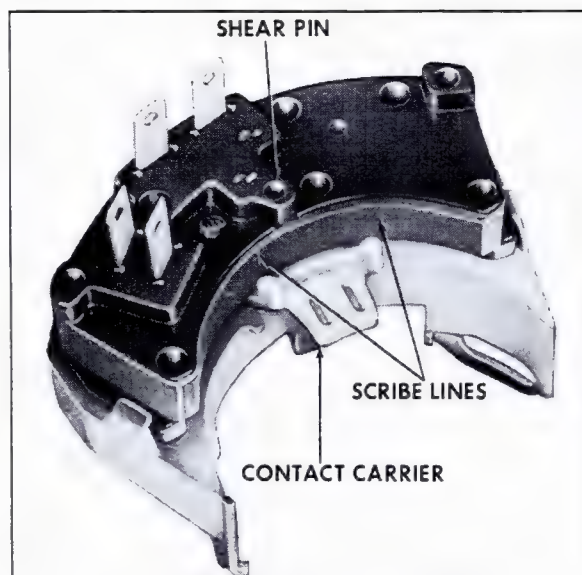

Fig. 12-34 Neutral Switch in Neutral
3. Mark position of contact carrier, Fig. 12-34.
3. Move contact carrier on switch assembly to neutral position as marked during removal, Fig. 12-34. If necessary to install a new switch, the switch will be secured in neutral by a shear pin. Do not break pin.